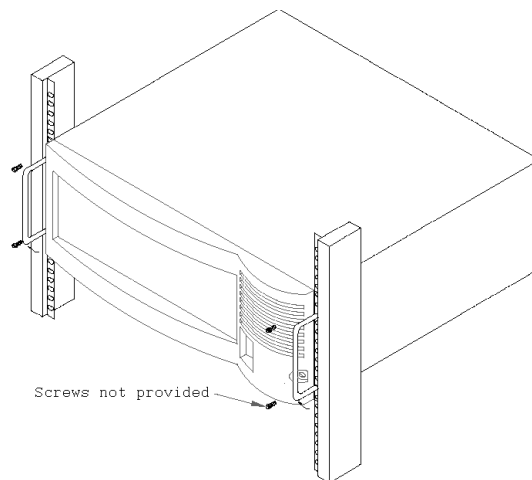

Figure 3.1 Mounting the VSR-2 in the Rack
5. Using your screws or clips, fasten the mounting brackets to the equipment rack as shown in Figure 3.1.